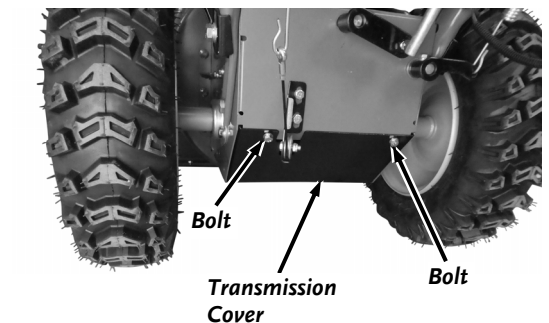

Figure 47
3. Remove the two Bolts that secure the Transmission Cover using a 10mm Wrench and remove the Transmission Cover (**Figure 47**).
15. Install the Transmission Cover (**Figure 47**).